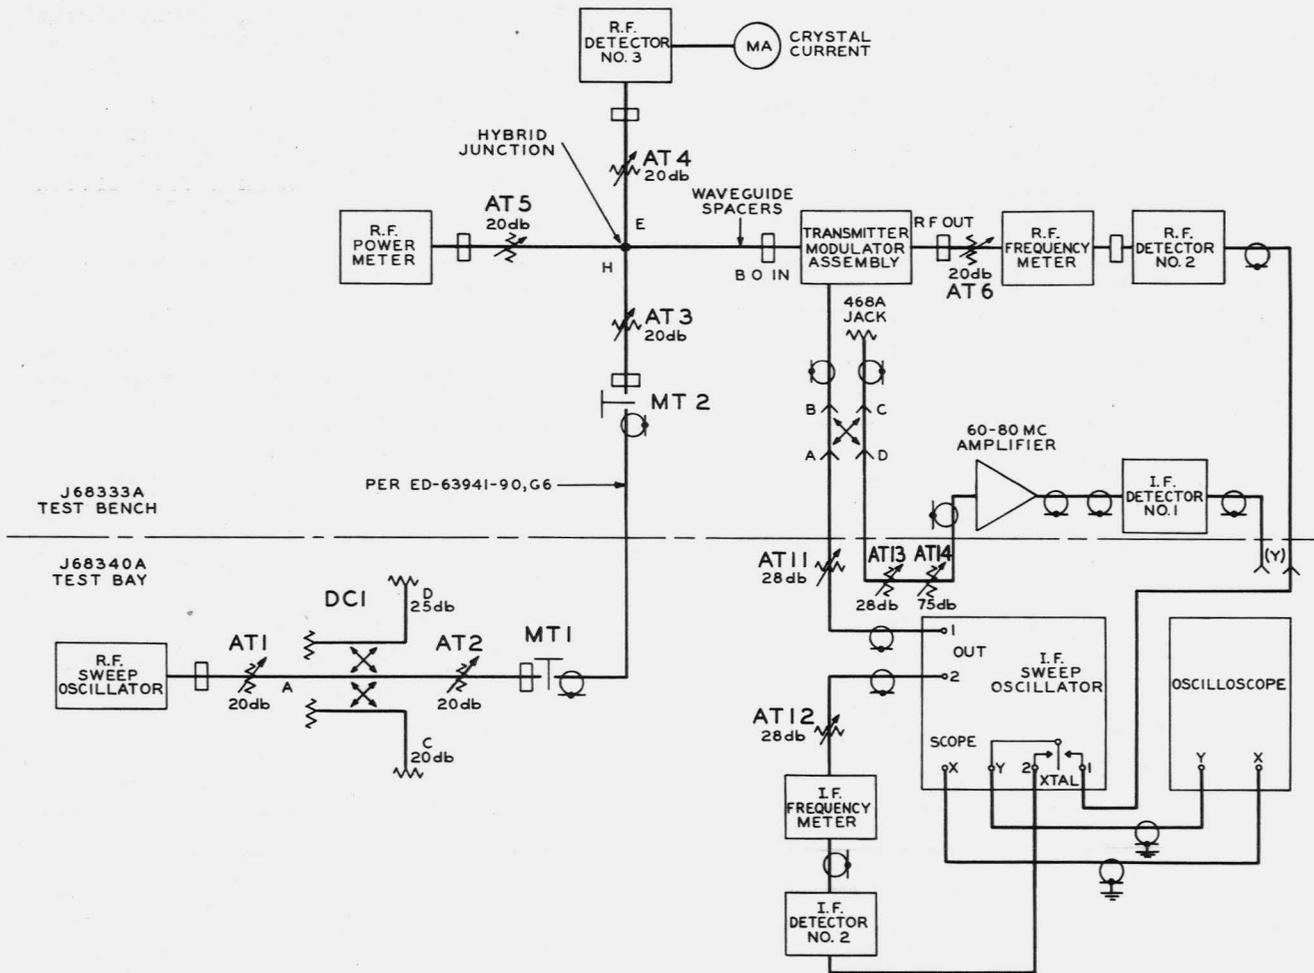
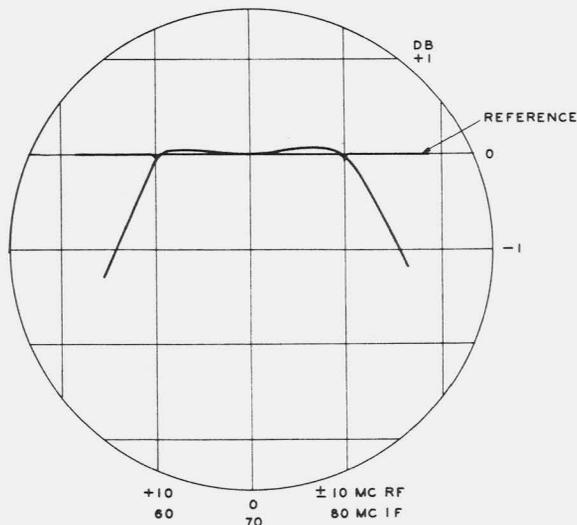

Fig. 16 - Arrangement for Tests
Fig. 18 - Typical Over-all Gain-frequency Characteristic of the Transmitter Modulator
(3) Connect the modulator and test equipment as shown in Fig. 16 with AT6 set at 20 db.
(4) Connect power from the transmitter control panel to J1 of the modulator.
(1) With the modulator and test equipment set up and calibrated in accordance with paragraph 8.03 disconnect the RF detector No. 2 and connect the IF detector No. 1 to the "XTAL 1" jack on the IF sweeper (see "Y", Fig.16) and calibrate for return loss measurements.
- (1) With the test set up as in paragraph 8.09 disconnect the IF detector No. 1 and connect the RF detector No. 2 to the "XTAL 1" jack on the IF sweeper (see "Y", Fig. 16) and remove the slope network.
- (2) Adjust AT6 for coincidence of the test and reference traces at the 60 and 80 mc points.
- (3) Change AT12 by one db and adjust the oscilloscope "Y" axis gain to give a separation of one inch between the two traces.
- (4) Reset AT12 to the original setting.
- (5) Observe the difference between the test and reference traces between 60 and 80 mc. A typical picture is shown in Fig. 18.